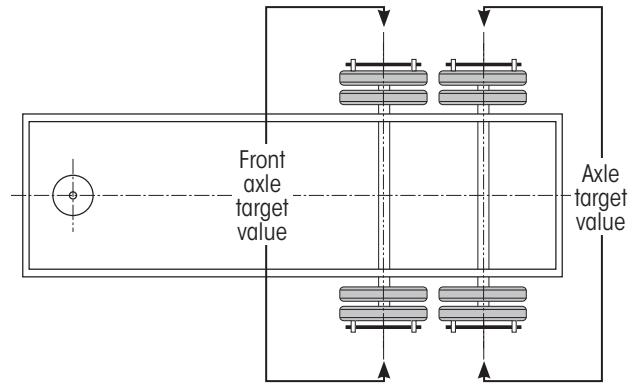

Figure 41: Point-to-point measurement for target values
1. **Measure** the point-to-point width of the installed wheel-end extenders (Figure 41).